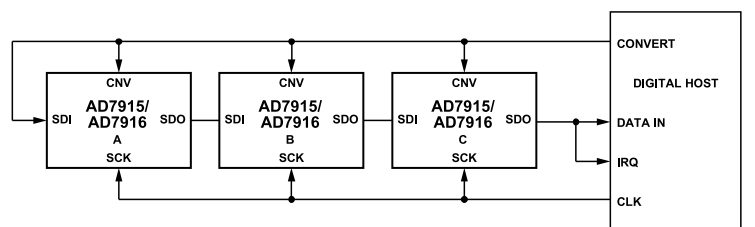
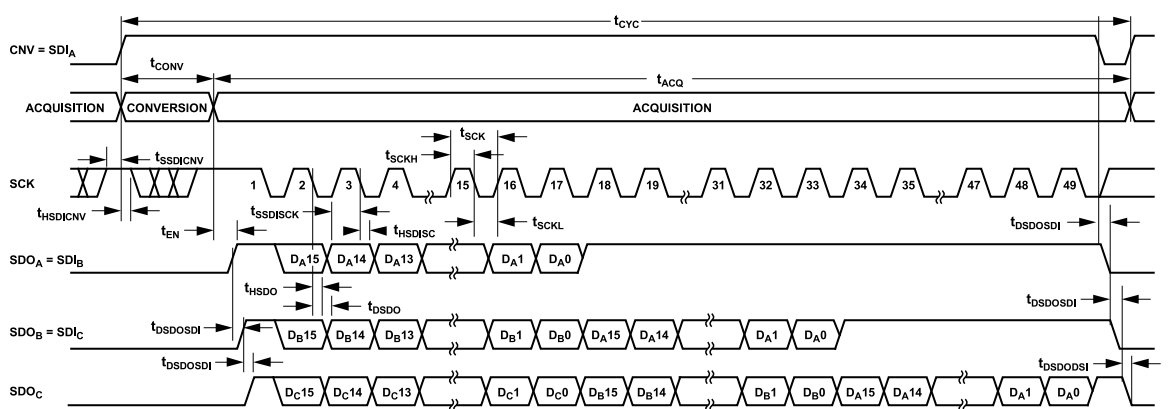

Figure 44. Chain Mode with Busy Indicator Connection Diagram
Figure 45. Chain Mode with Busy Indicator Serial Interface Timing
- ▶ in chain mode if SCK is high during the CNV rising edge (see Figure 45).
A connection diagram example using three AD7915/AD7916 devices is shown in Figure 44, and the corresponding timing is given in Figure 45.
read-back. When all ADCs in the chain have completed their conversions, the SDO pin of the ADC closest to the digital host (see the AD7915/AD7916 ADC labeled C in Figure 44) is driven high. This transition on SDO can be used as a busy indicator to trigger the data read-back controlled by the digital host. The AD7915/AD7916 then enter the acquisition phase and powers down. The data bits stored in the internal shift register are clocked out, MSB first, by subsequent SCK falling edges. For each ADC, SDI feeds the input of the internal shift register and is clocked by the SCK falling edge. Each ADC in the chain outputs its data MSB first, and $16 \times N + 1$ clocks are required to read-back the N ADCs. Although the rising edge can be used to capture the data, a digital host using the SCK falling edge allows a faster reading rate and, consequently, more AD7915/AD7916 devices in the chain, provided that the digital host has an acceptable hold time.